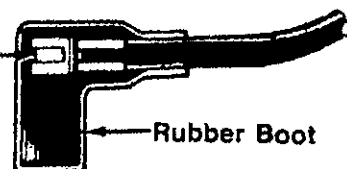

FIGURE 16.
1. Attach spark plug wire to spark plug. Make certain the metal loop on the end of the spark plug wire (inside the rubber boot) is fastened securely over the metal tip on the spark plug. See figure 16.